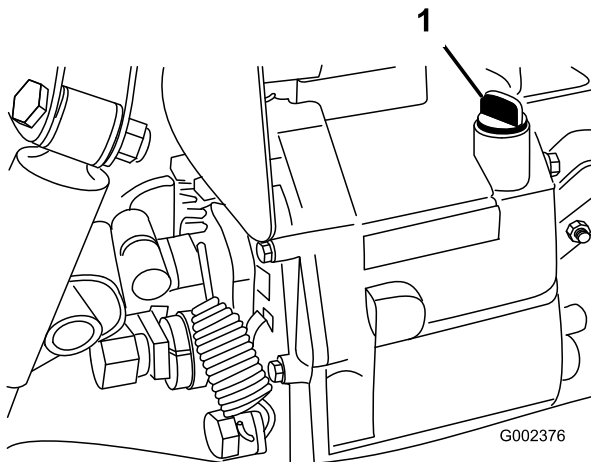

Figure 16
2. Clean the area around the dipstick (Figure 16).